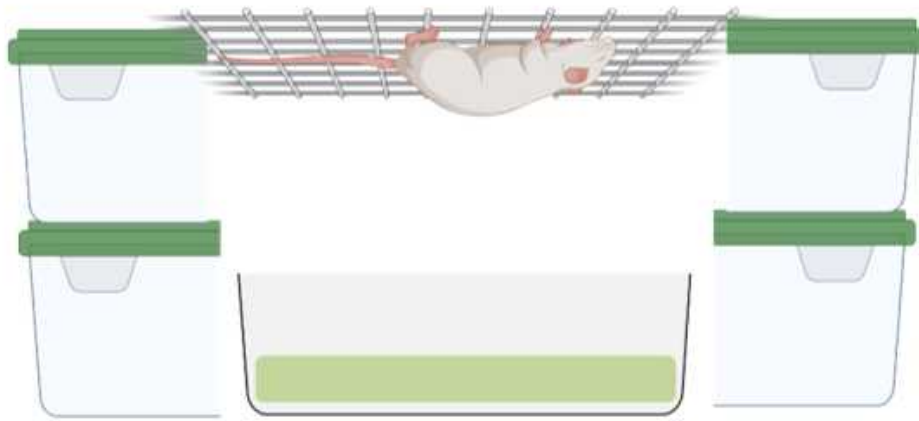

Figure 1. Wire hang apparatus set-up.
- 2.1 A wire hang apparatus can be made easily for use in this protocol and requires very little material (see Figure 1 for example). The apparatus should be easily traversed by the mice, meaning the spacing of the bars should be close enough to allow for free and easy movement of the mice and the width of the bars should be thin enough to allow for full grip by the paws. According to a protocol by Deacon, 2013 the ideal measurements are as follows. "The inverted screen is a 43 cm square of wire mesh consisting of 12 mm squares of 1 mm diameter wire (Figure 1). It is surrounded by a 4 cm deep wooden beading (which prevents the occasional mouse which attempts to from climbing on to the other side)" (see protocol image and materials for examples)